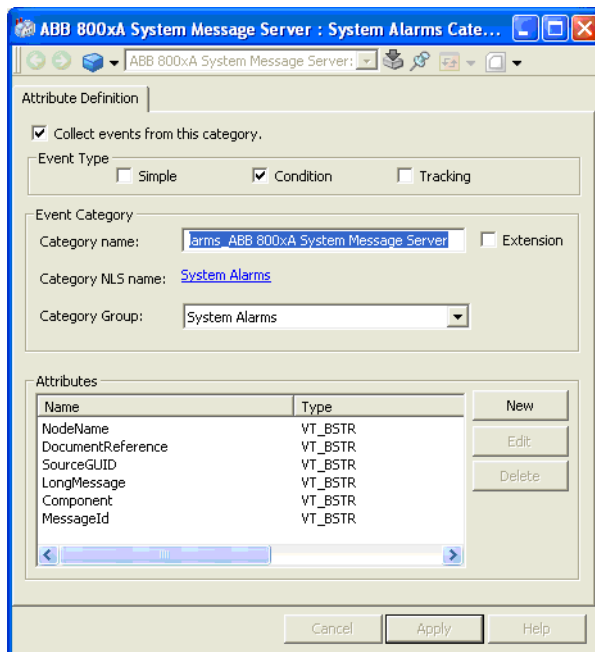

Figure 170. The Category and Attribute Mapping
that is not collected shown in lists or stored in event storage. Figure 170 shows the category and attribute mapping aspect.
2. Create an Event Attributes Definitions aspect, refer to Figure 170.